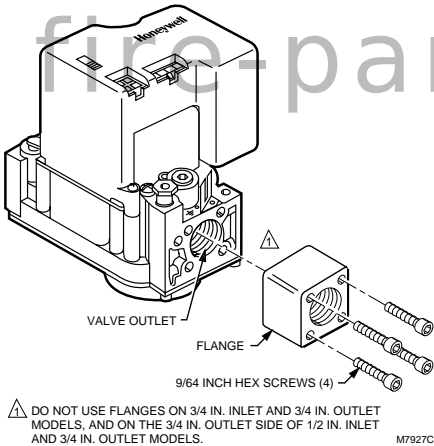

Fig. 2. Firmly fasten flange to valve but do not over-tighten screws.
4. With the O-ring facing the ignition system control, align the screw holes on the ignition system control with the holes in the flange. Insert and tighten the screws provided with the flange. See Fig. 2. Tighten the screws to 25 inch-pounds of torque to provide a gas-tight seal.